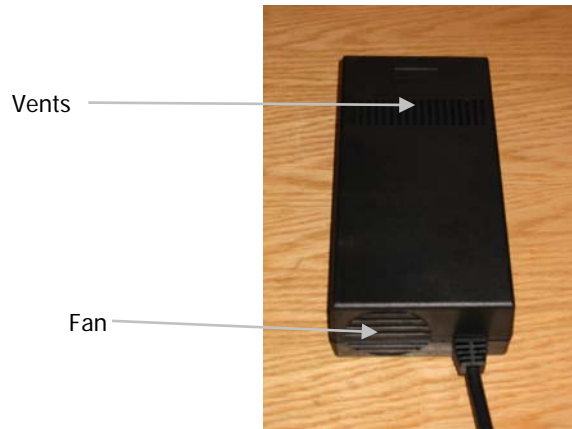

Figure 1 Power supply unit
- Ensure that the power supply unit (PSU) vents or fan do not become obstructed (Figure 1).
The RamanMicro 200 is powered by one external PSU (Figure 1). The PSU used with the spectrometer module can adjust automatically to a variety of AC power sources as outlined in Table 1. For information on line frequency and current please review the rating plate on the PSU.